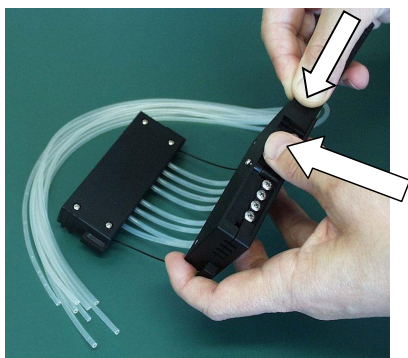

Figure 5-50. Inserting the cover on the calibration screws
15. Insert the calibration screw cover easier by lifting or bending the upper cover slightly (Figure 5-50).